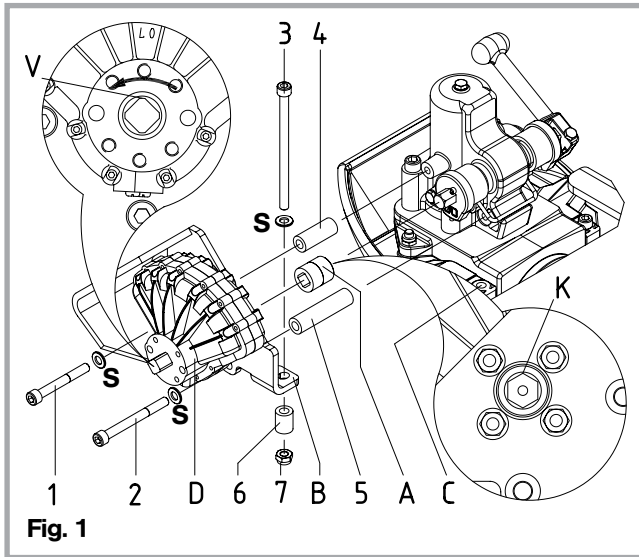

Fig. 1
1.2 Servo motor (Fig. 1)
- Remove fastening screw (C)
- Push adapter A to hexagon shaft of the automatic unit. Ensure correct installation position (K):
- Servo motor (D) incl. protection shield (B): mounted and adjusted
- Adjust the square shaft with marking to meet the marking on the housing. In case it is not working, turn square shaft back in direction of arrow until stop (V).
- Screw 1 (M 10 x 80) and Washer (S) incl. distane bush 4 (51 mm)
- Screw 2 (M 10 x 110) and Washer (S) incl. distane bush 5 (83 mm)
- Screw 3 (M 10 x 160) and Washer (S) incl. distane bush 6 (25 mm) and nut 7